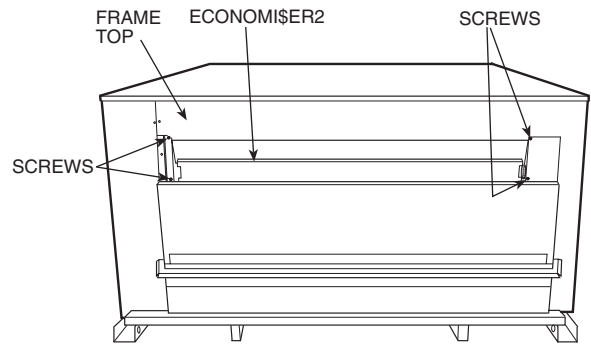
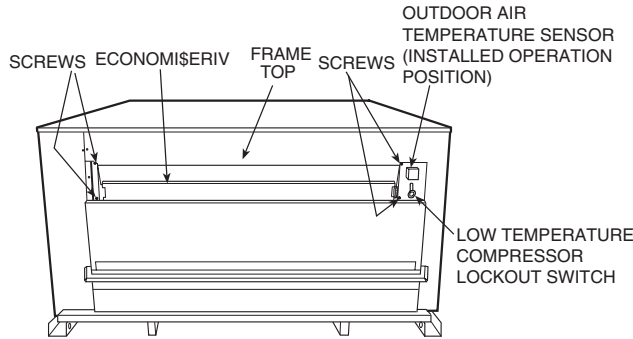
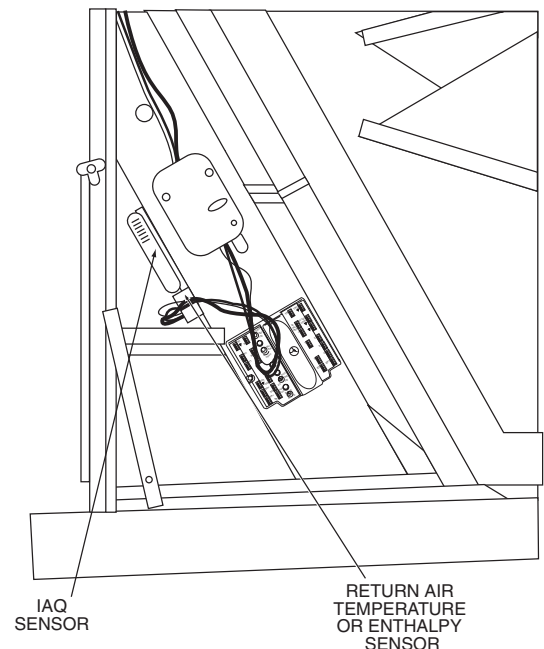
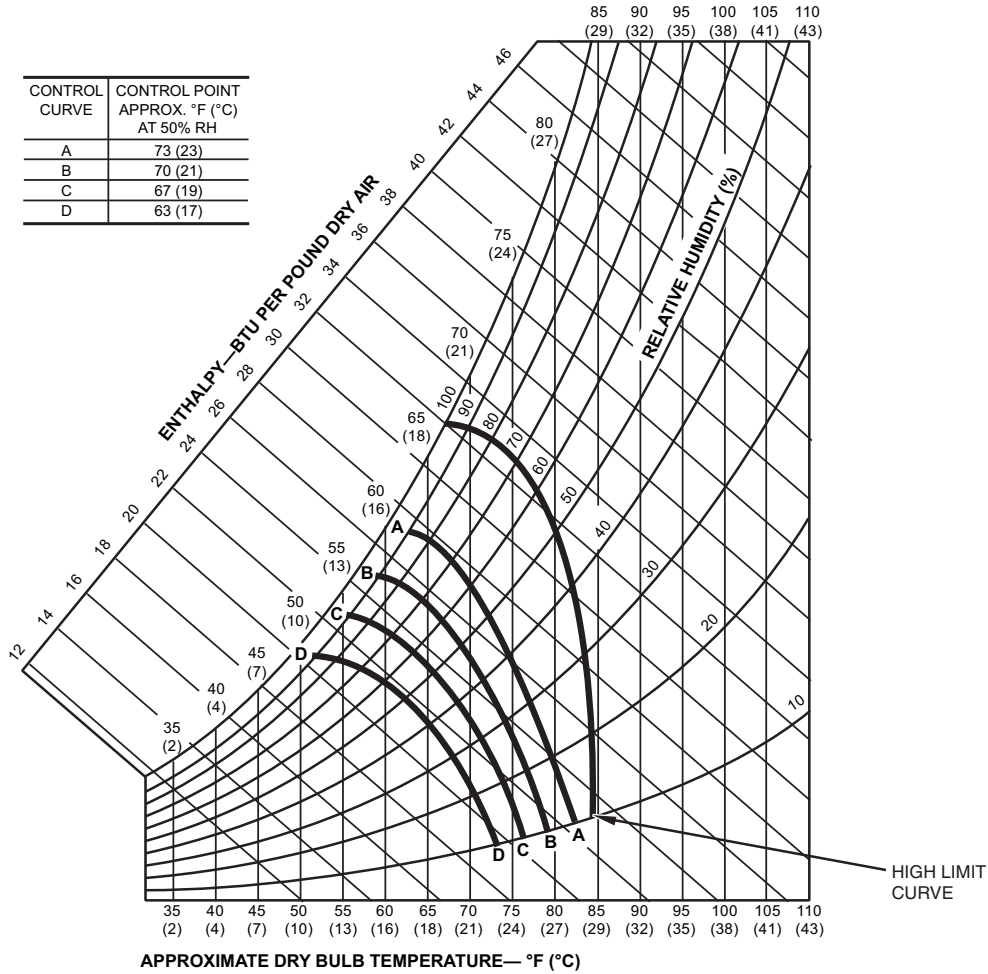

Fig. 35 — EconoMiSer2 Component Locations
Fig. 33 — EconoMiSerIV Component Locations — End View
Fig. 40 — Return Air Temperature or Enthalpy Sensor Mounting Location
Fig. 41 — Enthalpy Changeover Set Points
OPTIONAL ECONOMISERIV AND ECONOMISER2 — See Fig. 33 and 34 for EconoMiSerIV component locations. See Fig. 35 for EconoMiSer2 component locations.
2. Relocate outdoor air temperature sensor from shipping position to operation position on EconoMiSerIV. See Fig. 33.
Outdoor Air Temperature (OAT) Sensor — The outdoor air temperature sensor (HH57AC074) is a 10 to 20 mA device used to measure the outdoor-air temperature. The outdoor air temperature is used to determine when the EconoMiSerIV can be used for free cooling. The sensor must be field-relocated. See Fig. 33. The operating range of temperature measurement is 40 to 100 F.
Low Temperature Compressor Lockout Switch — The EconoMiSerIV is equipped with an ambient temperature lockout switch located in the outdoor airstream which is used to lockout the compressors below a 42 F ambient temperature. See Fig. 33.
Differential Dry Bulb Control — For differential dry bulb control the standard outdoor dry bulb sensor is used in conjunction with an additional accessory return air sensor (part number CRTEMPSN002A00). The accessory sensor must be mounted in the return airstream. See Fig. 40.
Outdoor Enthalpy Changeover — For enthalpy control, accessory enthalpy sensor (part number HH57AC078) is required. Replace the standard outdoor dry bulb temperature sensor with the accessory enthalpy sensor in the same mounting location. See Fig. 33. When the outdoor air enthalpy rises above the outdoor enthalpy changeover set point, the outdoor-air damper moves to its minimum position. The outdoor enthalpy changeover set point is set with the outdoor enthalpy set point potentiometer on the EconoMi\$erIV controller. The set points are A, B, C, and D. See Fig. 41. The factory-installed 620-ohm jumper must be in place across terminals SR and SR+ on the EconoMi\$erIV controller. See Fig. 33 and 42.
Replace the standard outside air dry bulb temperature sensor with the accessory enthalpy sensor in the same mounting location. See Fig. 33. Mount the return air enthalpy sensor in the return airstream. See Fig. 40. The outdoor enthalpy changeover set point is set with the outdoor enthalpy set point potentiometer on the EconoMi\$erIV controller. When using this mode of changeover control, turn the enthalpy set point potentiometer fully clockwise to the D setting.
To control the minimum damper position remotely, remove the factory-installed jumper on the P and P1 terminals on the EconoMi\$erIV controller. Wire the field-supplied potentiometer to the P and P1 terminals on the EconoMi\$erIV controller. See Fig. 40.